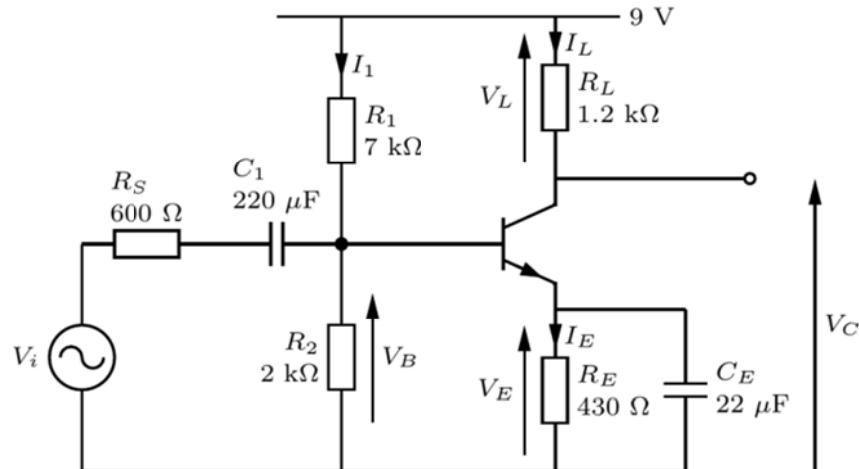
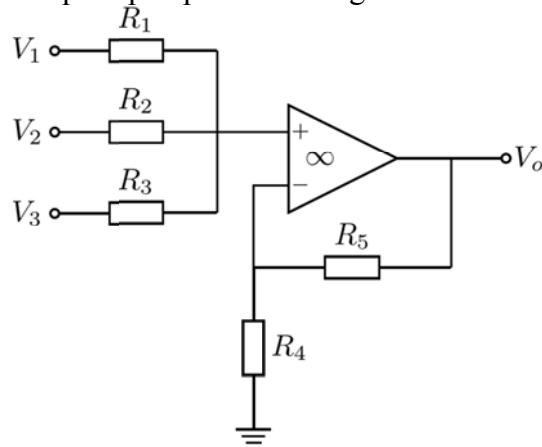

Figure 3b
Figure 6b
- b. For the amplifier in figure 3b calculate the DC conditions. (Collector current, load voltage, collector voltage, emitter voltage, base current, emitter current and the current in the base biasing network (I_1)). Assume that the transistor V_{BE} is 0.7 V in the forward active region and $\beta = 150$. State all other assumptions clearly. (9)
- i) an expression for the small signal voltage gain for the amplifier in figure 3b. It is acceptable to use \parallel to represent components which appear in parallel. (5)
- ii) a numerical value for the gain, stating any assumptions. (2)
4. a. i. Using sketches briefly describe the operation of the n-channel JFET and n-channel MOSFET planar devices. You should highlight the main differences between the two, including how the gate bias controls the drain current in each case. (14)
- ii. Identify the ‘on’ and ‘off’ gate bias conditions for each when operated as a switch. (4)
- b. i. Using data and equations from page 1 calculate the time it takes for an electron to travel underneath a 1 μm long gate in an n-channel Si MOSFET. You should assume a lateral electric field of $5 \times 10^6 \text{ Vm}^{-1}$ under the gate region. (4)
- ii. Why is this delay time important when designing high frequency or fast switching MOSFETs? (3)
5. a. Boron (group 3) is used to dope a piece of silicon semiconductor to a concentration of $1 \times 10^{24} \text{ m}^{-3}$. Explain on an atomic scale why this results in p-type material with a hole produced for every boron atom introduced into the lattice. (6)
- b. Will the hole concentration change significantly as the temperature is increased by 50 °C above room temperature? Under the same temperature increase will the fractional change in charge carriers be higher for intrinsic (undoped) material? Justify your answers. (4)
- c. Calculate the concentration of minority electrons in this material ($n_i = 1 \times 10^{16} \text{ m}^{-3}$ for silicon at room temperature). (3)
- d. What is the conductivity resulting from this doping? (3)
- e. Compare this with the conductivity component due to the minority electrons (3)
- f. Calculate the resistance between opposite faces of a cube of 1 mm edge dimension made from this doped silicon. (3)
- g. What is the resistance between the end faces of a cube where the edge dimension is doubled? (3)
- i) Draw a diagram of an inverting opamp circuit (2)
- ii) Draw an arrow on your diagram pointing to the “virtual earth” (1)
- iii) State briefly how the “virtual earth” is created and maintained. (3)
- iv) State the input resistance of the inverting opamp circuit. (1)
- v) Derive an expression for the gain of the circuit assuming $A_v \rightarrow \infty$. (3)
- vi) Show that $\frac{v_o}{v_i} = \frac{-R_f}{R_i + \frac{1}{A_v}[R_i + R_f]}$ assuming A_v is finite. (5)
- b. Consider the multiple input opamp circuit in figure 6b.